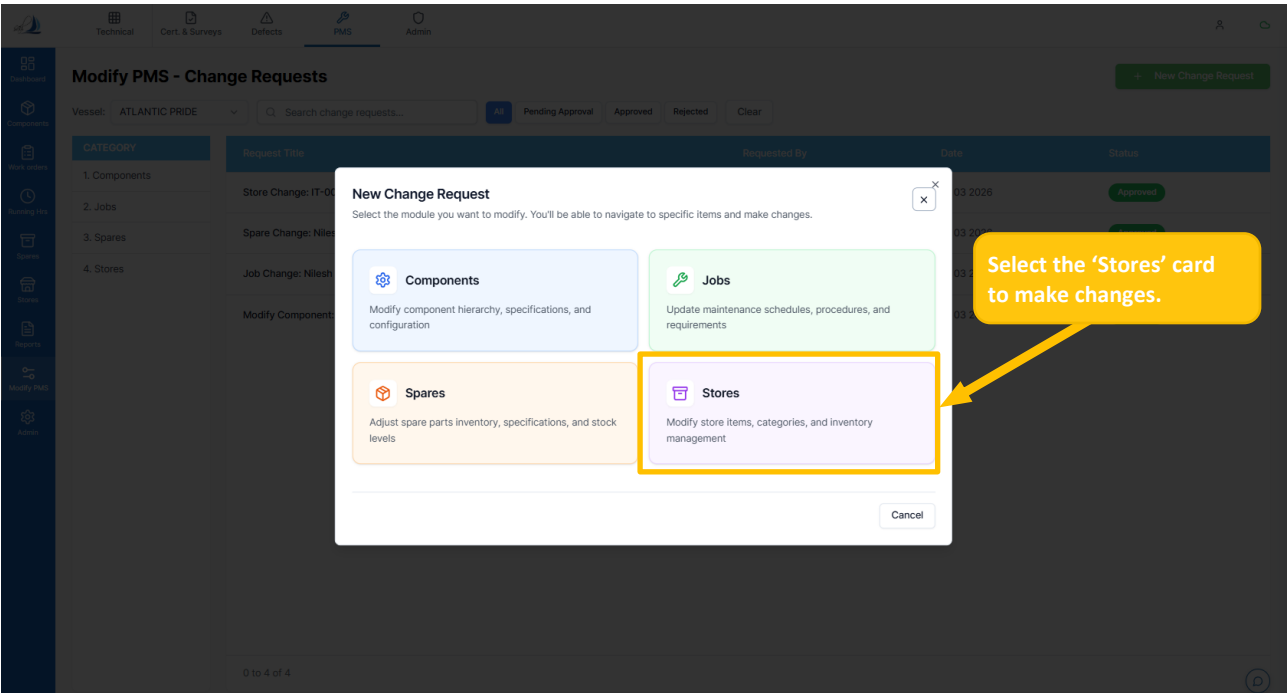

Figure 79
- Select the 'Stores' card to change or modify. (Ref. Figure 79)